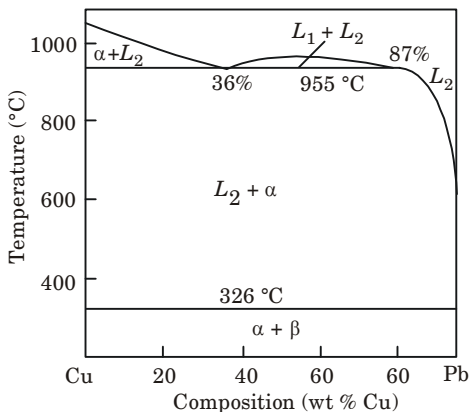

Fig. 3.15.2.
2. Cu-Pb system has a monotectic at 36 % Pb and 955 °C as shown in (Fig 3.15.2).